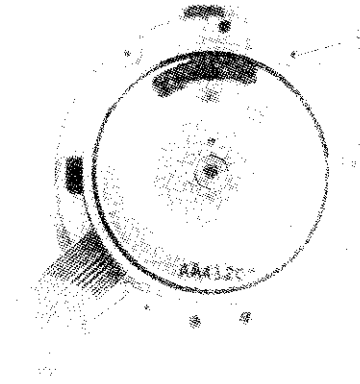
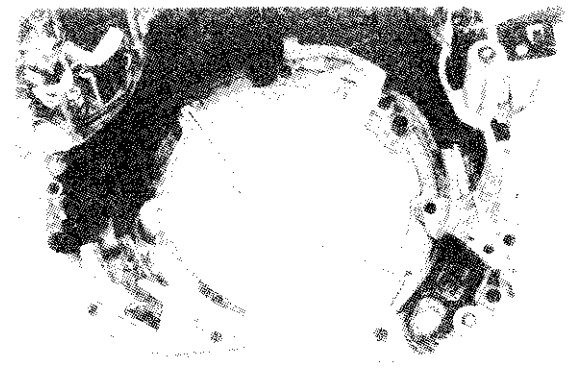

Fig. 3-4-3
Fig. 3-4-4
- (1) Pass the FPC cable attached to the drum assembly from the front side to the back side of the drum assembly mounting hole.
- (2) Attach the drum assembly onto the main plate so that the positioning pins on the main plate (e, f) (Fig. 3-4-4) go into the positioning holes (g, h) (Fig. 3-4-3) of the assembly, while carefully avoiding contact with any peripheral part of the drum assembly.
- (3) Fix the drum assembly with three screws (i, j, k) (Fig. 3-4-3).
- (4) Attach the PCB MDA.
- (5) Attach the brush.